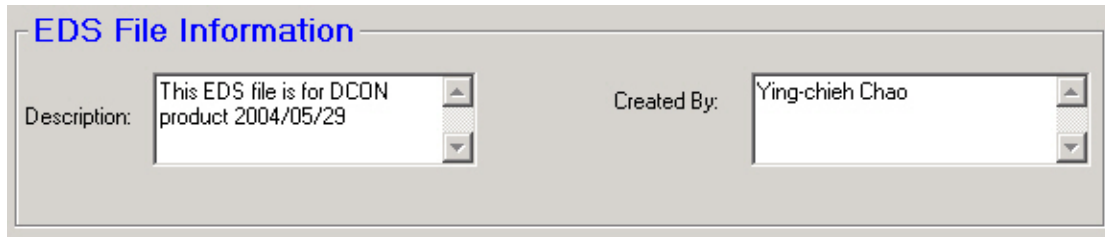

Fig 5-25
Step 10: Setting the EDS file information and give it a description in the description box provided as figure 5-25.